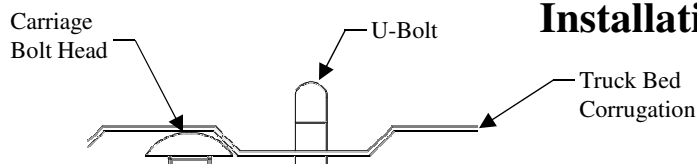

Figure 6
- Install under bed supports with (4) vertical 5/8" bolts in rails.
- Using the U-bolt slots as a guide, drill four 9/16" holes in the bed. These holes must be in a lower bed corrugations to limit the amount of U-bolt showing above the bed (see figure 6).